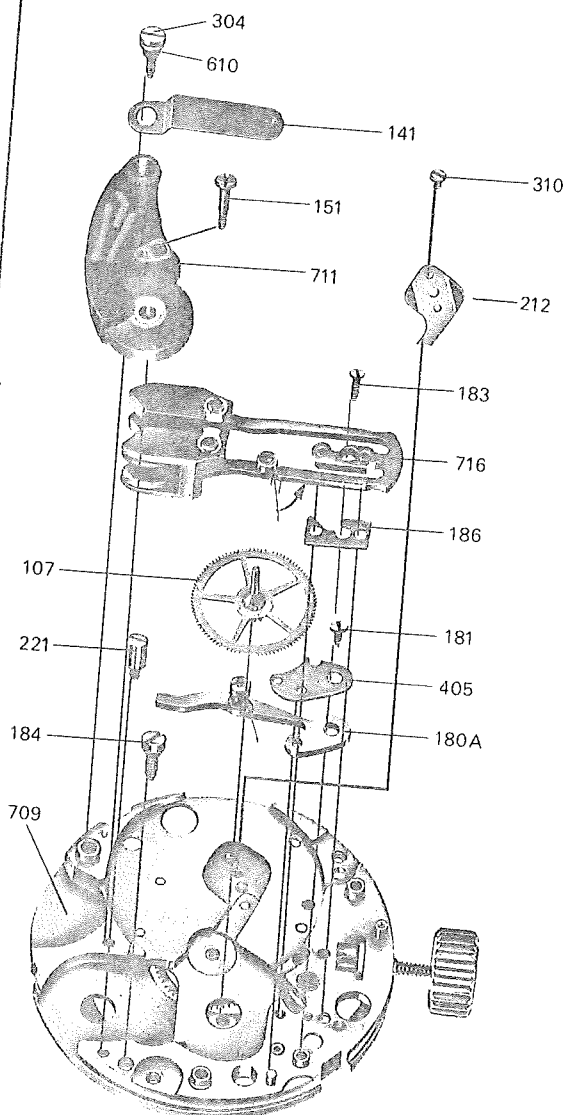

Fig. 30
- b. Remove tuning fork (716), and fork spacer (186), 4th wheel (107), phasing screw (184), pawl bridge screw (181), pawl bridge (180 A) and index wheel guide (405). (Fig. 30).